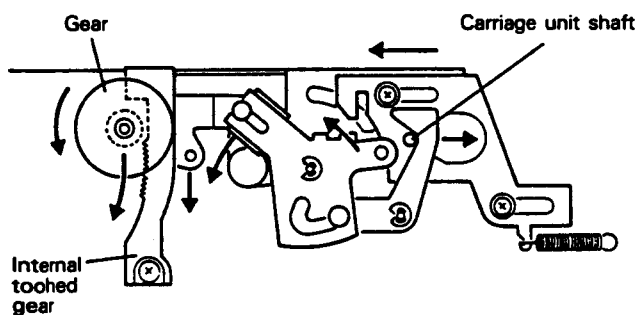

Fig. 13
2. For pickup unit (CGY1007) handling, please refer to "Disassembly" (Fig. 13) During replacement, handling precautions shall be taken to prevent an electrostatic discharge (protection by a short pin).